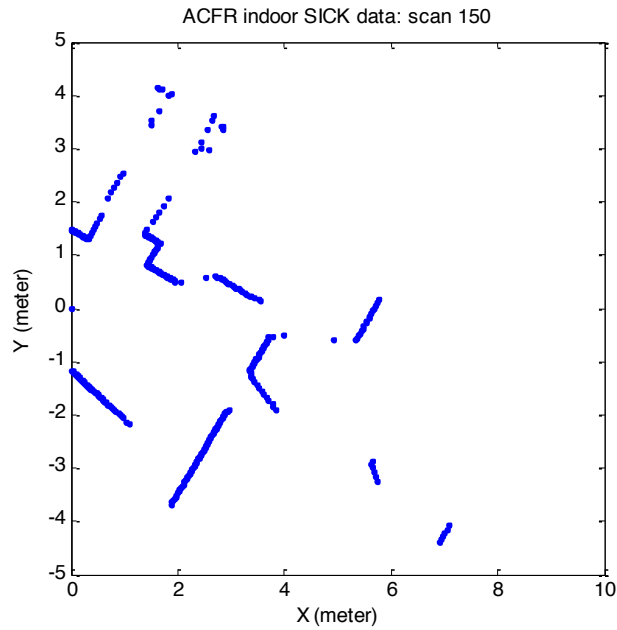

Figure 1: A scan example of the ACFR indoor dataset
- b. ACFR indoor dataset: run “laserShowAcfr.m” in Matlab to see the ACFR indoor data set. Figure 1 shows a scan example.